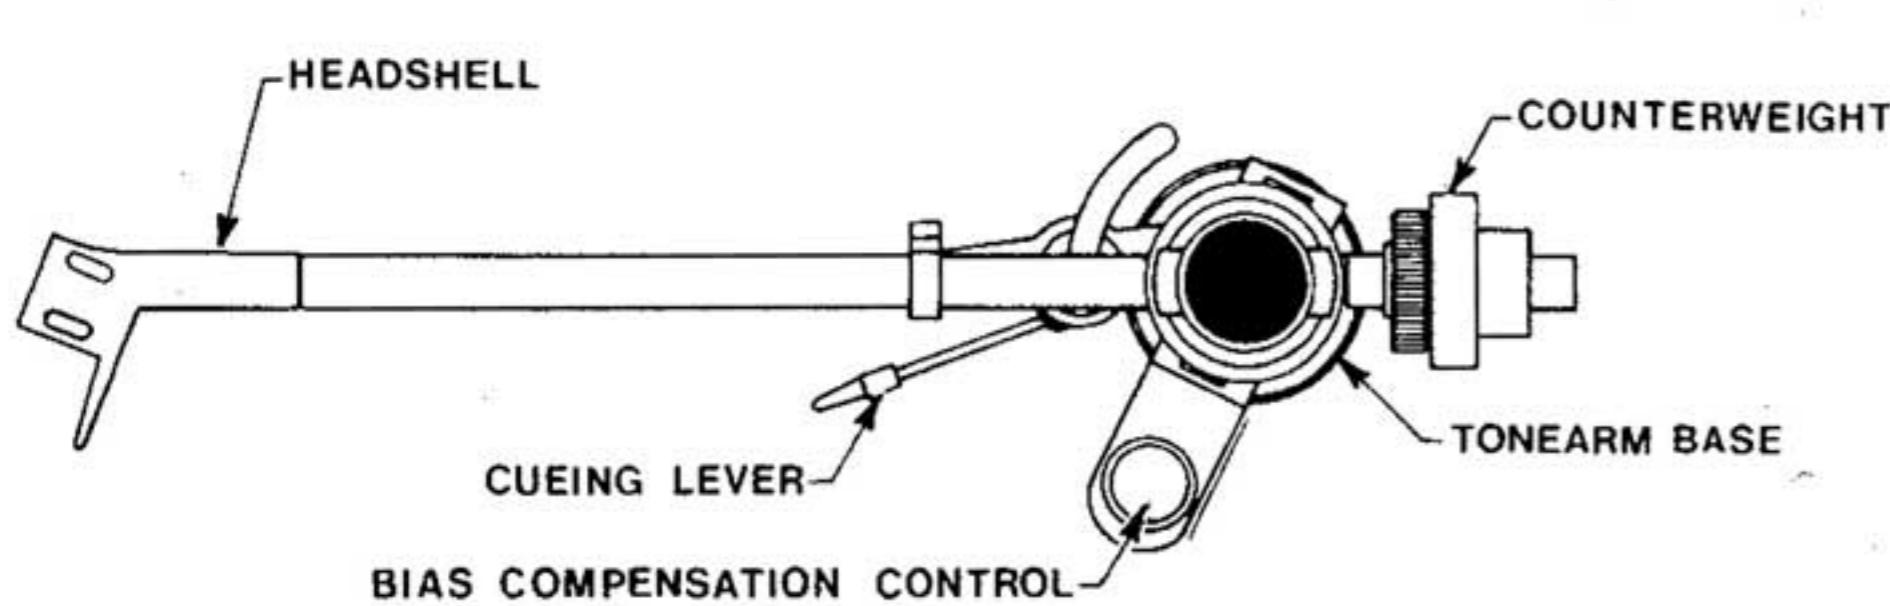
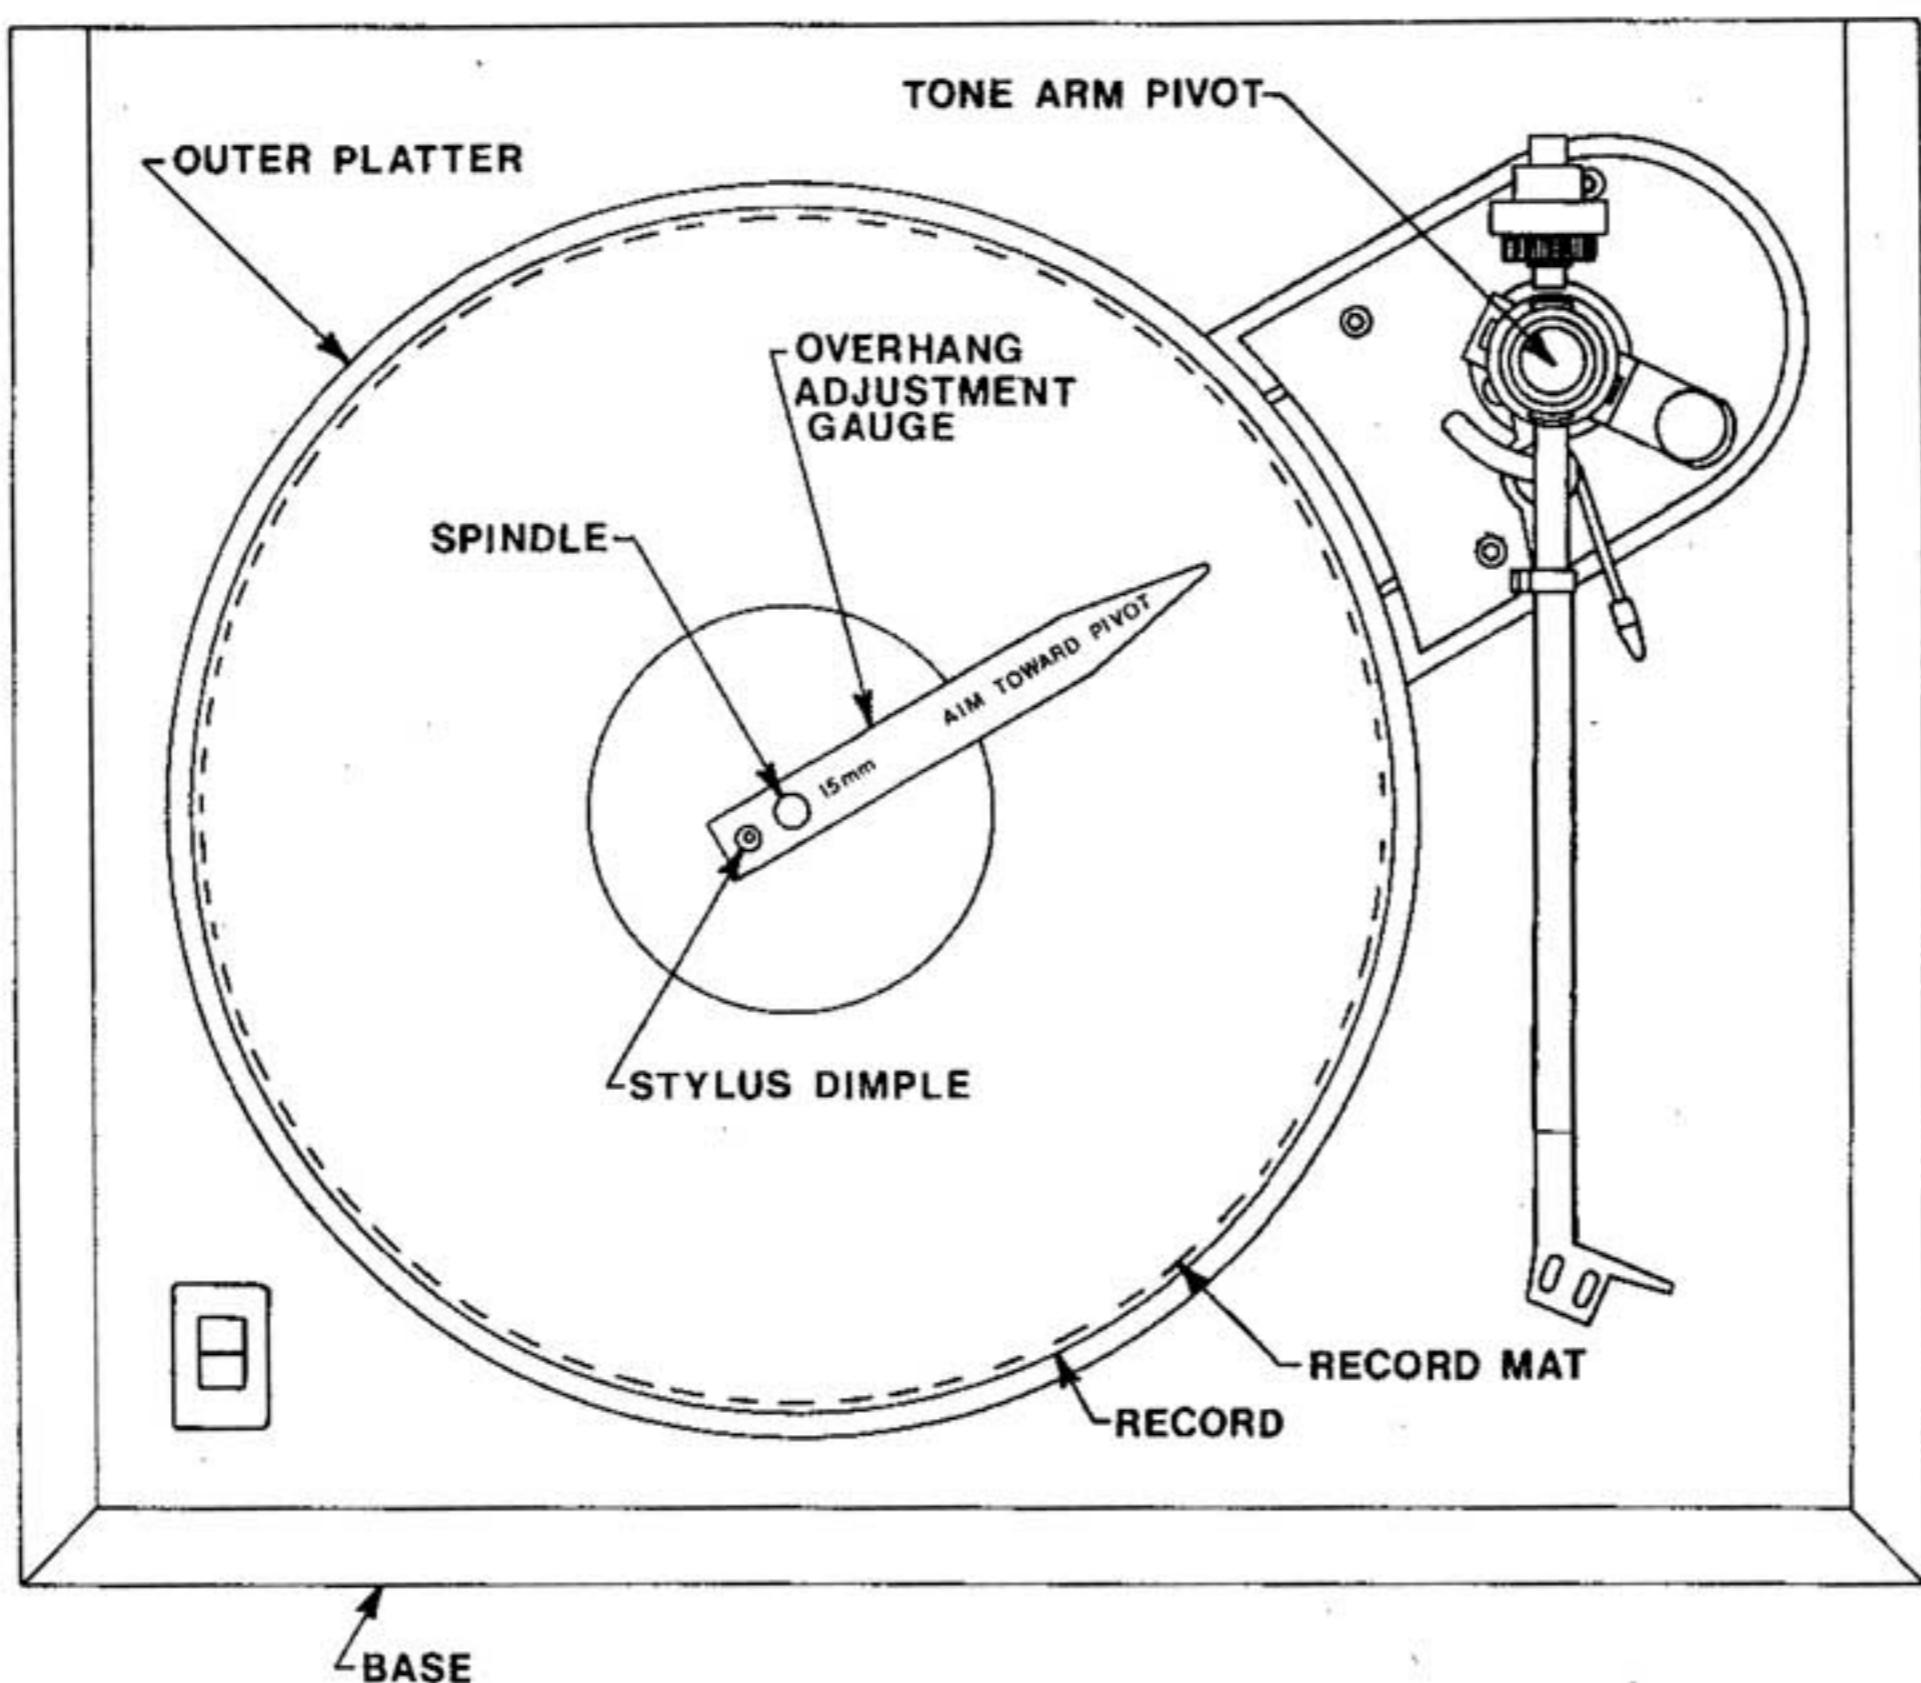

FIG. 3
FIG.5
- (1) Mount the cartridge of your choice in the headshell. Follow the manufacturer's instructions in doing this and use either hardware supplied with the cartridge or that supplied with this turntable. The wiring in the headshell is color coded as follows: Right channel: red +, green -. Left channel: white +, blue -.
- (2) Mount the counterweight onto the rear of the tonearm. This is achieved by holding the weight by the large diameter and pushing it onto the rear of the tonearm (with the white numbers to the front) whilst rotating it in an anti-clockwise direction when viewed from the front.
- (3) Set the tracking force to about 1 gram. To do this, the arm first must be set to zero tracking force. Set the bias compensation control (fig 3) to zero, release the arm from the arm-rest, and then rotate the large-diameter counterweight until the arm floats freely in a horizontal position. The arm is now balanced to zero. Without moving the counterweight itself, now rotate the knurled calibrated dial relative to the counterweight until “0” is next to the white line on the tonearm. Now rotate the whole counterweight together with the calibrated dial in an anti-clockwise direction using the large diameter again until “1” is against the white line. The tracking force is now set to 1 gram.
(5) Set the stylus overhang to 15mm. The clear plastic overhang gauge provided in the accessories is used in this step. Place the hole in the gauge over the turntable spindle and aim the pointed end of the gauge towards the pivot of the tonearm (fig 5). Loosen the screws holding the cartridge in the headshell and adjust the position of the cartridge backwards or forwards until the stylus point sits in the dimple in the raised portion of the gauge. It may be necessary to slacken slightly the 1.5mm allen screws in the tonearm base and rotate the entire tonearm temporarily in order to seat the stylus point as described above. **CAUTION—CARE MUST BE TAKEN NOT TO DAMAGE THE STYLUS ASSEMBLY WHILST MAKING THESE ADJUSTMENTS.** When the stylus is in this position with the cartridge body parallel to the straight edge of the headshell, gently place the arm back in the arm-rest without disturbing the cartridge setting and tighten the cartridge retaining screws firmly. Finally, recheck the cartridge position with the gauge to ensure that nothing moved, recheck that the arm is parallel to the record, and then rotate the arm to its correct position (if it was moved) and firmly tighten the screws in the arm base.
(6) Rebalance the arm to zero and set the tracking force recommended by the cartridge manufacturer using the steps outlined in section (4).
(7) Set the bias compensation force (fig 3). The dial should be turned to the tracking force set in section (7).
- (1) Connection. Your Acoustic Research Turntable is connected to your amplifier or receiver using the phono cables attached to it (if complete with the Acoustic Research Tonearm) or those that came with the arm of your choice. Units purchased with the Acoustic Research Tonearm also have a single wire attached to the phono cables which may be attached to the grounding screw on your receiver or amplifier. This will normally ensure that no problems with hum are experienced.
- (2) Hinged dust-cover. The dust-cover supplied with your turntable fits directly into the two hinges on the rear of the unit. It is a friction fit and is merely slid into place. It should be positioned such that the long slanting edge is to the front of the unit.
- (3) Playing a record. To turn on your Acoustic Research Turntable, the on/off switch is located at the front left of the base. If your unit was supplied with the Acoustic Research Tonearm, then this may be lowered onto the record by using the damped lowering mechanism, the control for which is the straight lever to the right front of the tonearm bearing (see fig 3).
- (4) Speed change. Your Acoustic Research Turntable will play at either 33½ RPM or at 45 RPM. Speed change is effected by switching off the unit, removing the outer platter and then moving the belt to the correct diameter on the drive pulley. The small diameter is 33½ RPM, the large diameter is 45 RPM. It may be helpful when changing to 45 RPM to also carefully relocate the belt on the inner platter such that it is in the lower position needed for that speed.